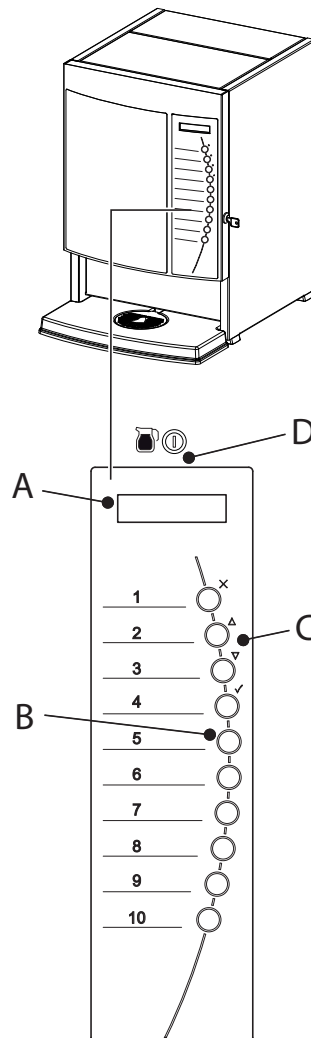

Fig. 21
- The front operating panel (fig. 21) is for normal daily use.